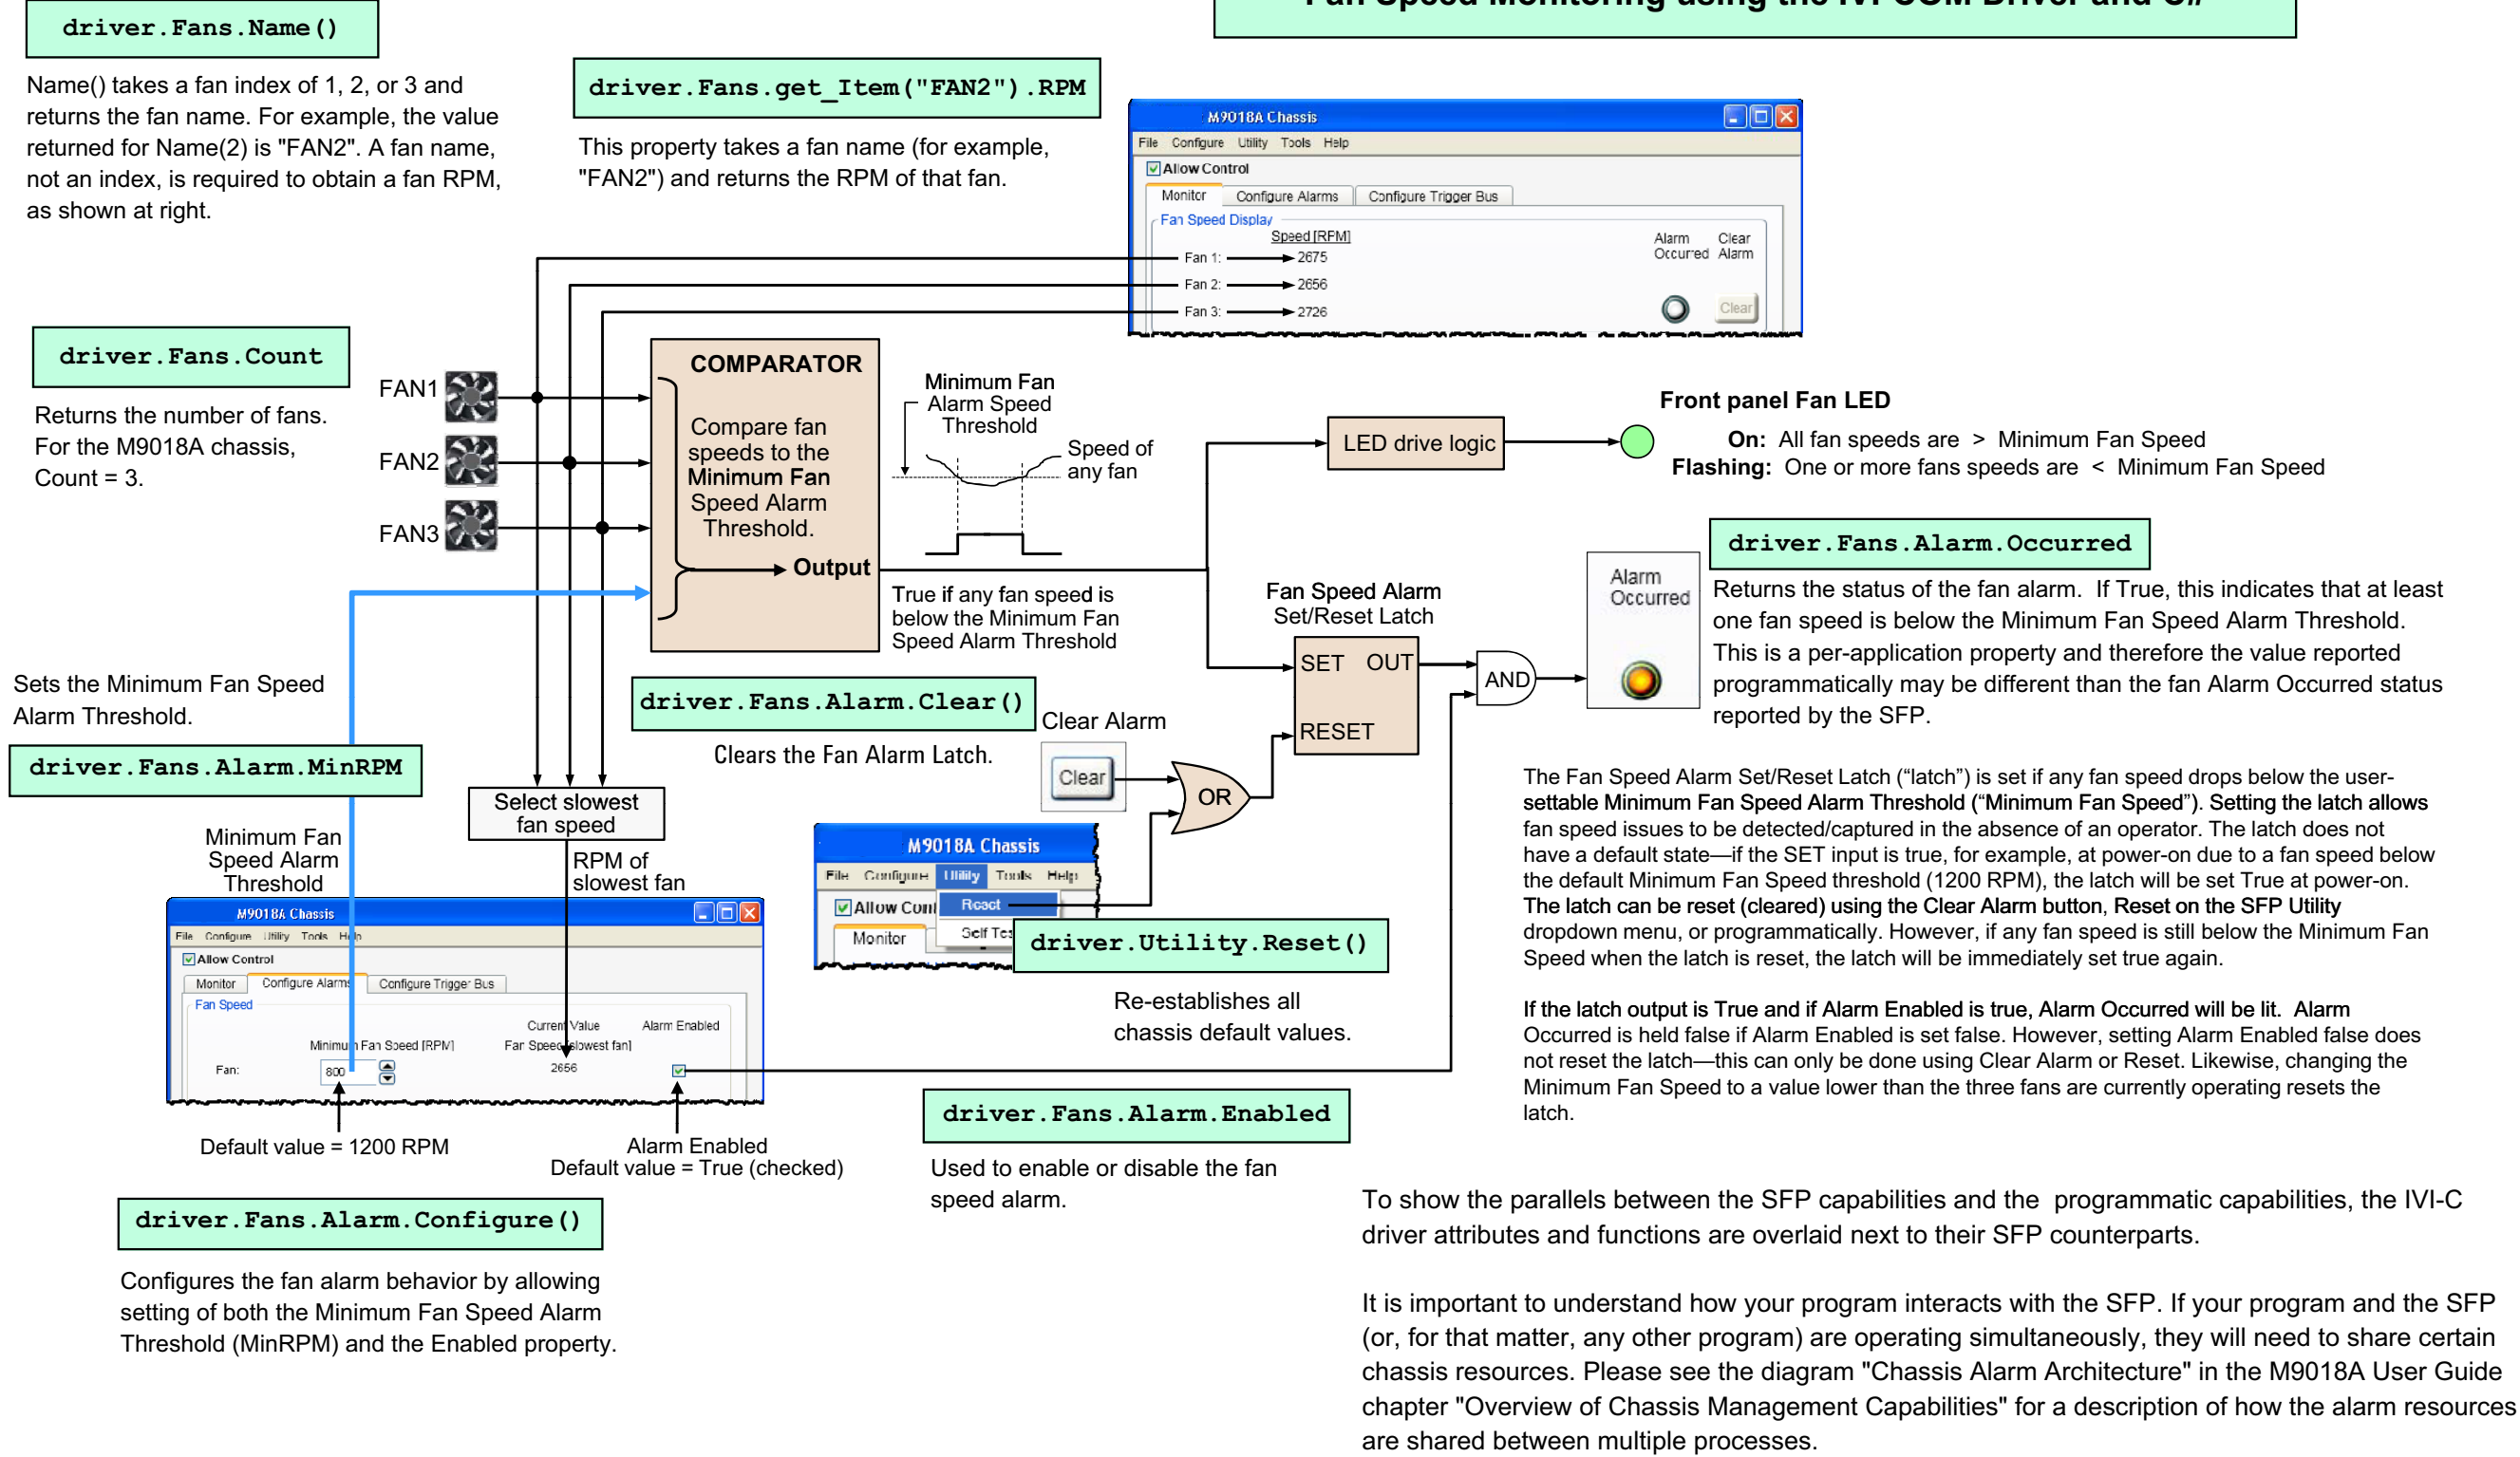

Figure 18 Fan speed monitoring using the IVI-COM driver and C++
- IVI-COM driver and C# – Figure 18 on page 43